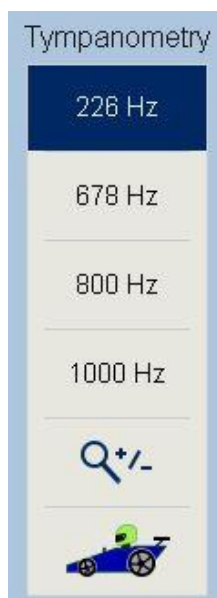

Figure 43
- **RaceCar** : Licensed function, to display **RaceCar** animation during testing. See section 5.4.4.3 for more information (Figure 43).